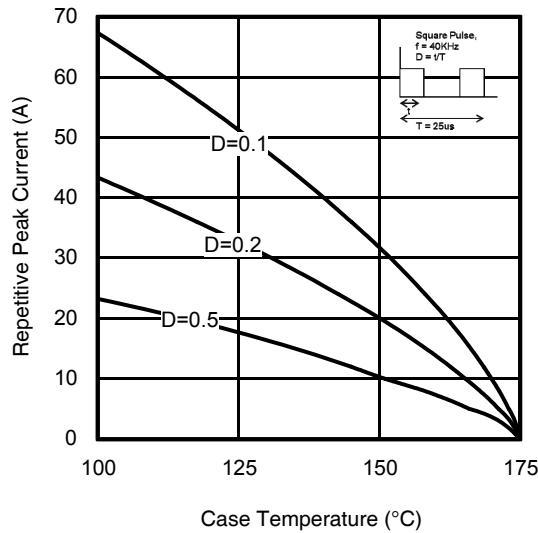

Fig 26. Maximum Diode Repetitive Forward Peak Current vs. Case Temperature
- ① V_{CC} = 80% (V_{CES}), V_{GE} = 20V, R_g = 10Ω, L=1.0mH.
- ② R_θ is measured at T_J of approximately 90°C.
- ③ Refer to AN-1086 for guidelines for measuring V_{(BR)CES} safely.
- ④ Pulse width limited by max. junction temperature.
- ⑤ Values influenced by parasitic L and C in measurement.
- ⑥ f_{sw} = 40KHz, refer to figure 26.